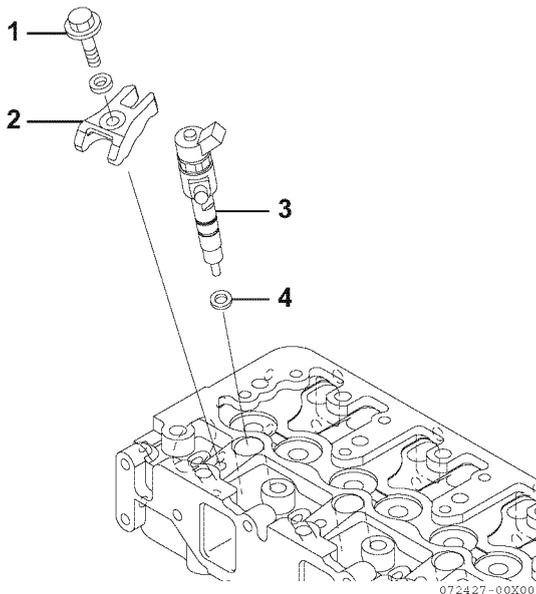

Figure 7-9
5. Loosen the injector fixture retainer bolt (1, **Figure 7-9**) (M8), and remove the retainer (2, **Figure 7-9**).
6. Remove the injector (3, **Figure 7-9**) and injector seats (gaskets) (4, **Figure 7-9**).